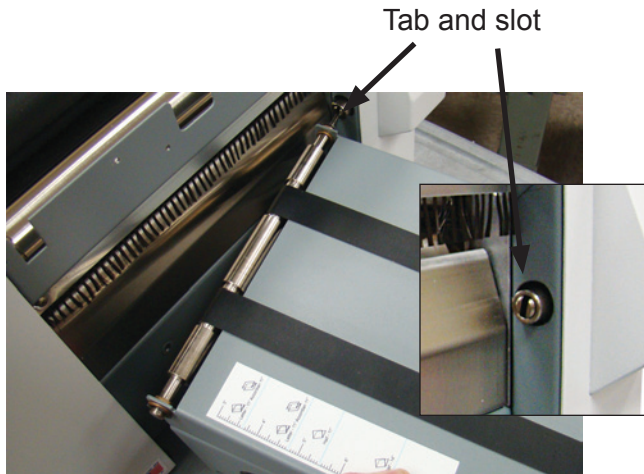
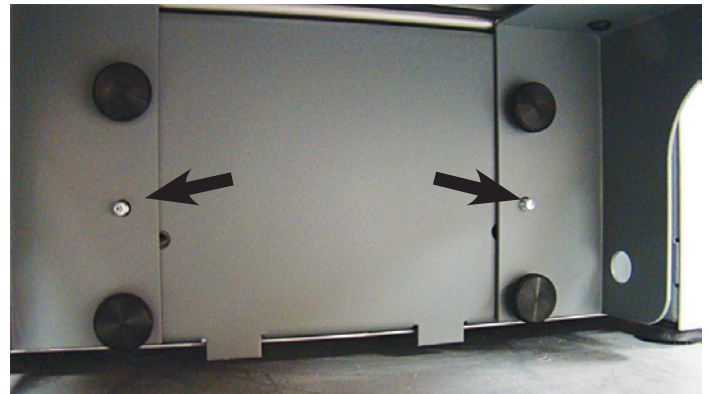

Figure 1a
Figure 1b
5. To attach the conveyor to the out-feed, align the tab on the right side of the conveyor with the slot on the machine (Figure 1a). Rest the support braces on the two alignment studs (see arrows), and tighten the four thumbscrews provided (Figure 1b).